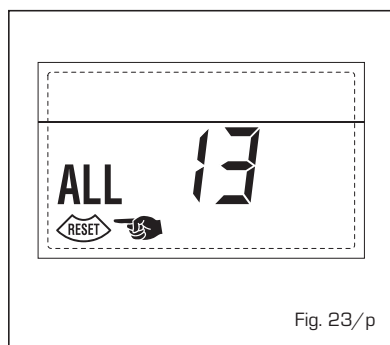

Fig. 23/p
– **EXHAUST FUMES THERMOSTAT ERROR 14** (fig. 23/q)